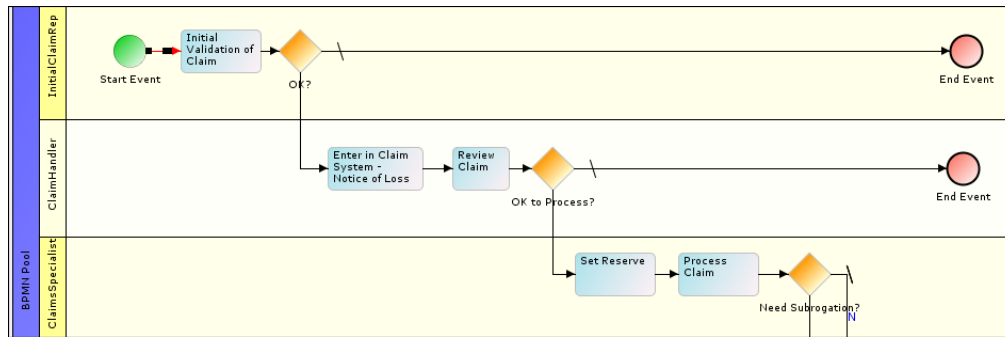

Figure 32: New Color for Pool
3. Select the color for the Pool and click **OK**. This changes the Pool color to the new color (see Figure 32).